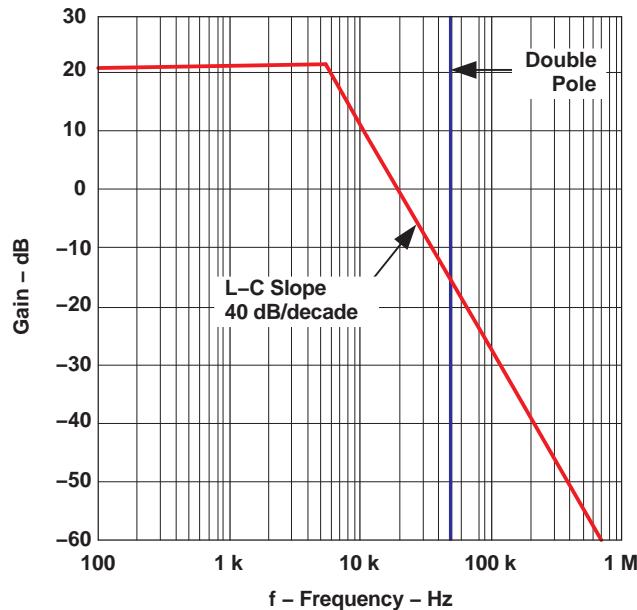

Figure 25. PWM and L-C Filter Gain
A Bode plot of the PWM and LC filter is shown in Figure 25.
4. From Figure 25, the required gain is calculated at 15.8 dB. Equation 44 sets the value for R_{PZ2} . A resistor for R_{PZ2} with value of 12.7 k Ω is used. C_{Z2} is calculated using Equation 48 and the desired frequency for the second zero, $C_{Z2} = 1475$ pF. A 2200 pF capacitor is used.